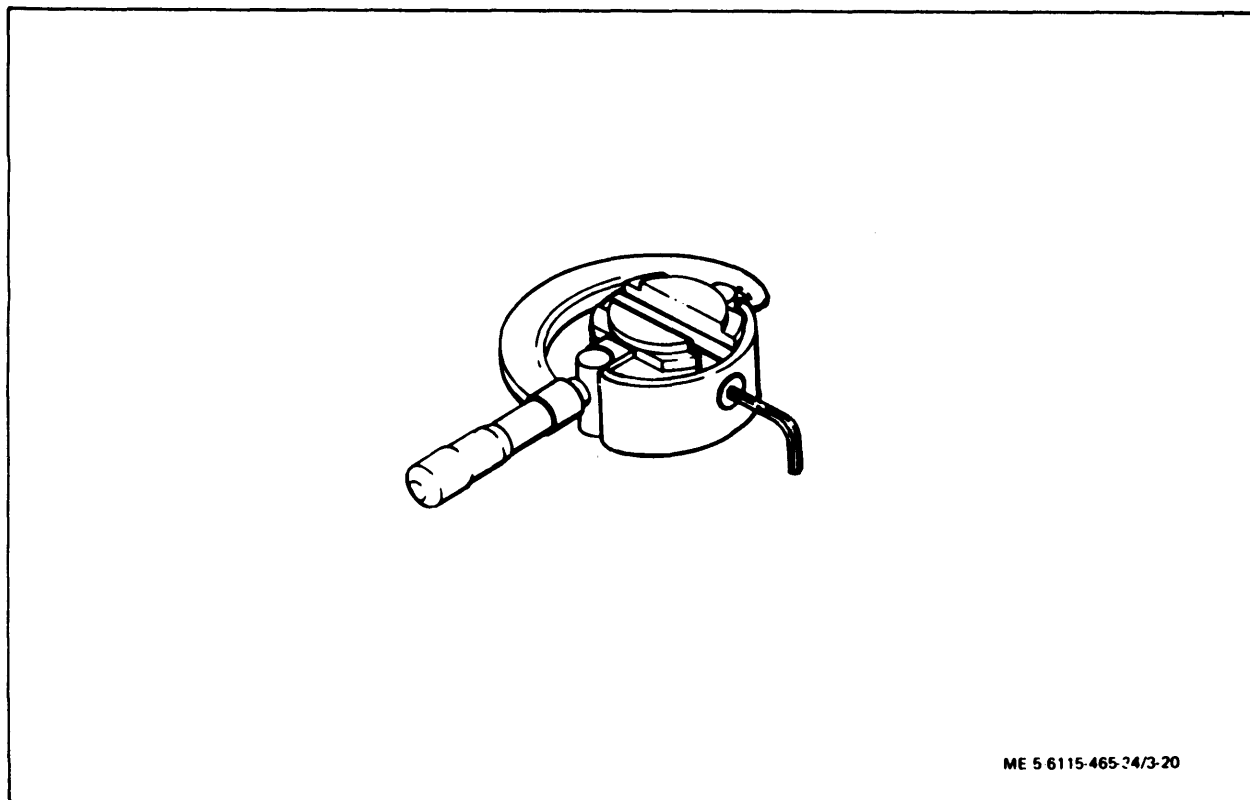

Figure 3-20. Adjusting Fuel Injection Pump Roller-to-Roller Dimension
(8) Place the hydraulic head and rotor in the holding fixture. Insert plungers (127) into the rotor bores. Install shoes (126), rollers (125) and leaf springs (124).
(9) Adjust roller-to-roller dimension as follows: (See figure 3-20)